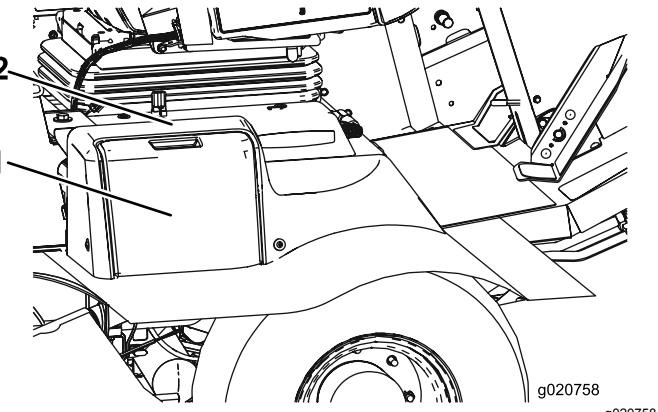

Figure 75
- Open the battery cover on the side of the shroud (Figure 75).
**Note:** Press down on the flat surface above the battery cover to ease the removal of the cover (Figure 75).